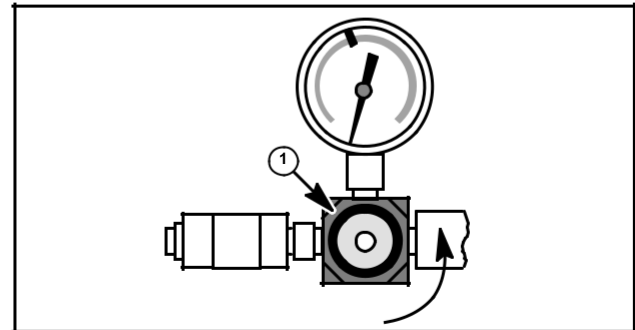
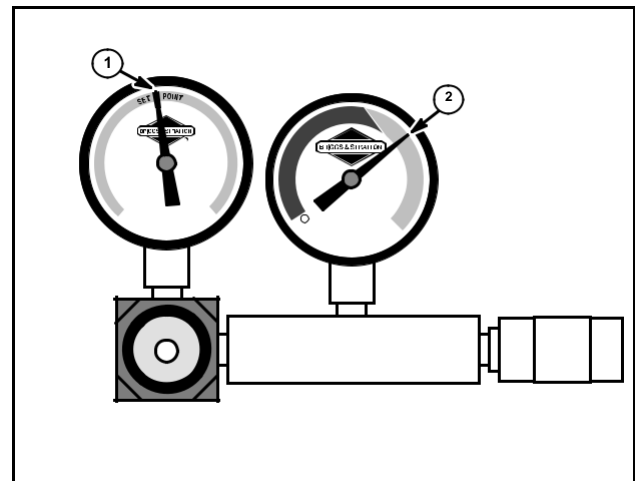

Fig. 2
Fig. 3
5. Pull regulator lock nut out and turn adjustment knob counterclockwise as far as it will go (1), Fig. 2. Inlet gauge set point (1) is shown in Fig. 3.
8. With breaker bar held securely, slowly turn regulator adjustment knob clockwise until tester's inlet gauge needle is on the set point. Push in regulator lock nut. Note position of outlet gauge needle (2), Fig. 3 and refer to TABLE NO. 1, Specifications.